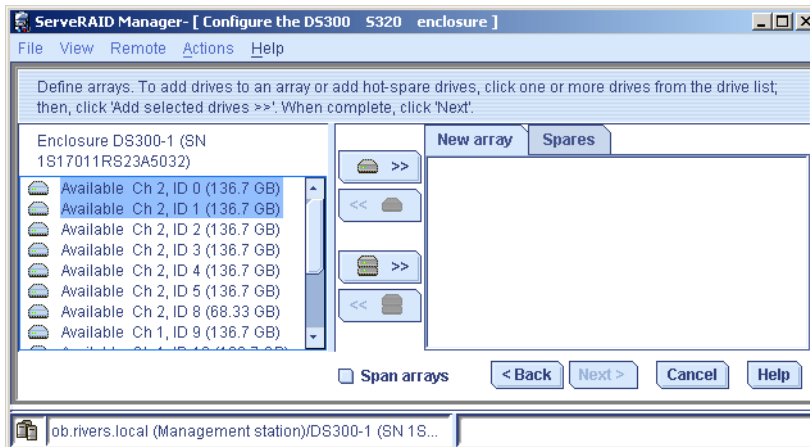

Figure 4-59 Select drives for new Array-1
4. Hold **Ctrl** and click the two drives which will build the array. Select drives with ID 0 and 1. These two drives will build the first array which will be a RAID 1 array. See Figure 4-59.